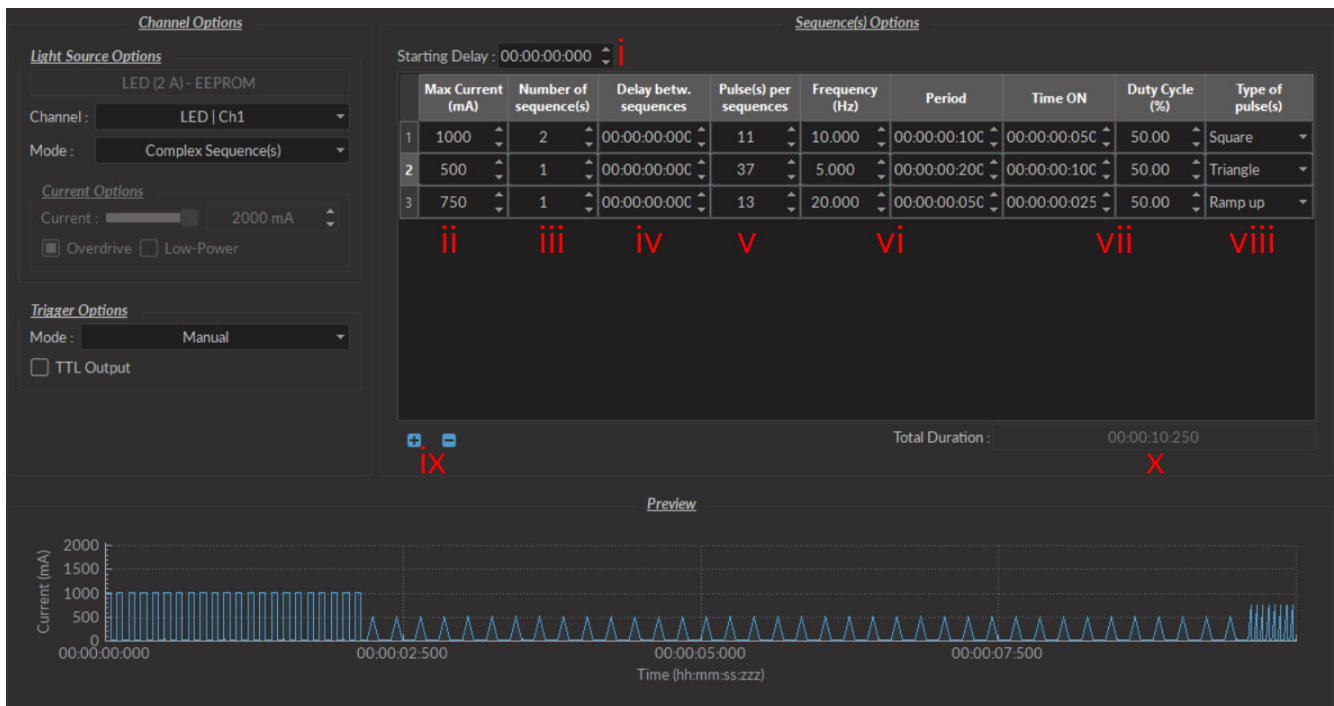
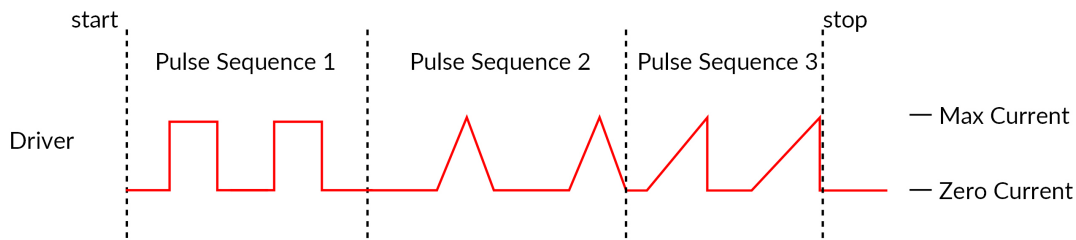

Figure 3.8: Complex Sequences Window
Figure 3.9: Internal Complex Mode Pulse Sequences
- The **Starting Delay** (Fig. 3.8) sets the delay (in hh:mm:ss:zzz format) before the first pulse sequence.
- The **Max Current** (Fig. 3.8) sets the maximum current (in mA) for the given sequence.
- The **Number of sequences** (Fig. 3.8) sets the number of times that the sequence will be repeated, with a minimum of 1.
- The **Pulses per sequence** (Fig. 3.8) sets the number of pulses per sequence, with a minimum of 1.
- The **Delay between sequences** (Fig. 3.8) sets the delay (in hh:mm:ss:zzz format) between each sequence if the **Number of Sequences** is greater than 1.
- The **Frequency/Period** (Fig. 3.8) sets the frequency (in Hz) or period (in ms) for the pulse sequence. These two values are linked, and when one is changed the other will adjust automatically. For example, a signal at 10 Hz (frequency) will output one pulse every 100 ms (period), whereas a pulse sequence at 0.5 Hz (frequency) will output one pulse every 2000 ms (period).
- The **Time ON/Duty Cycle** (Fig. 3.8) sets the time (in ms) or the duty cycle (in %) for each pulse. These two values are linked, and when one is changed the other will adjust automatically. The **Time ON** must be lower than $(1/\text{frequency})+0.005$ ms, while the **Duty cycle** must be below 100 %.
- The **Types of pulses** (Fig. 3.8) sets the pulse type. Pulses can be **Square**, triangular (**Triangle**), **Ramp up** **Ramp down** or **Delay** (Fig. 3.9). The **Delay** pulse type is used to create a delay between different sequence
- The **Sequence controls** (Fig. 3.8) allow the addition (+) or removal (-) of sequences to the spreadsheet.
- The **Total Duration** (Fig. 3.8) displays the total time of the experiment. The different values can be *Inf* for infinite, a valid time value or *Err* if the **Time ON** value is greater than $1/\text{frequency}$.